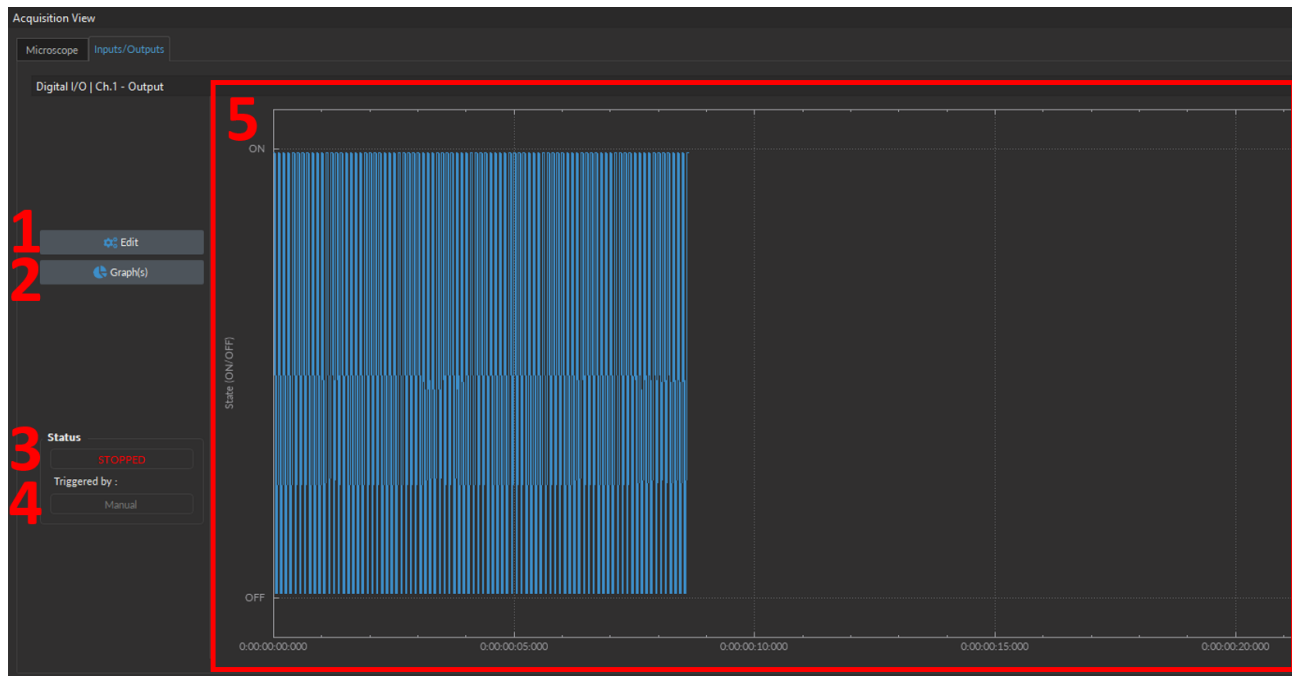

Figure 5.19: Inputs/Outputs tab
The **Inputs/Outputs View** (Fig. 5.19) displays trace from the Digital Input/Output.
1. The **Edit** button opens the configuration of the Digital Input/Output channel (Fig. 5.19).
2. The **Graph(s)** button opens a window to change graph display options (Fig. 5.19).
3. The **Status** displays the information if the channel is Running (in acquisition), Waiting (the trigger signal) or Stopped (Fig. 5.19).
4. The **Triggered by:** displays the option chosen to trigger the channel (Fig. 5.19).
5. The **Digital I/O plot** displays the signal sent or received on the programmed channel (Fig. 5.19).